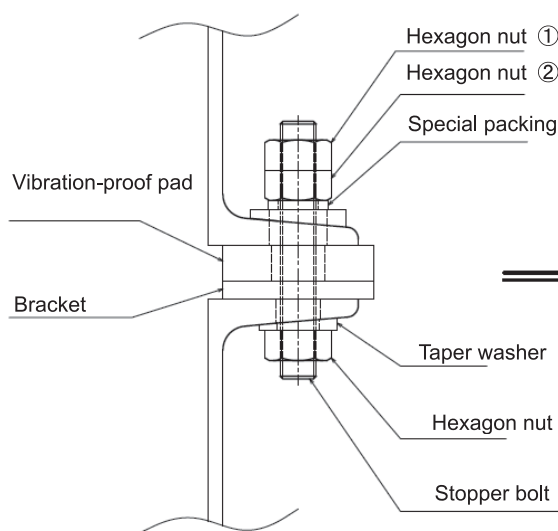

Figure 9
At the time of shipment, double nuts for fastening a stopper bolt (hexagon nut ①, ②) are tightened to prevent a special packing from jumping out as shown in Figure 9. After installing the fan at the delivery site, be sure to loosen the double nuts for fastening the stopper bolt to the position shown in Figure 9 and fix them.
If the fan is operated with the double nuts locked (see Figure 9), the expected vibration-proof effect cannot be obtained.